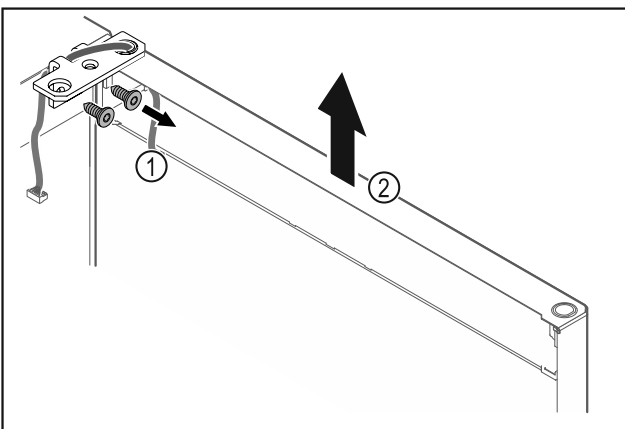

Fig. 14
- ▶ Unscrew the hinge Fig. 14 (1).
- ▶ Lift the door with the hinge straight up by Fig. 14 (2) roughly 200 mm (7.87 in) and take it off.